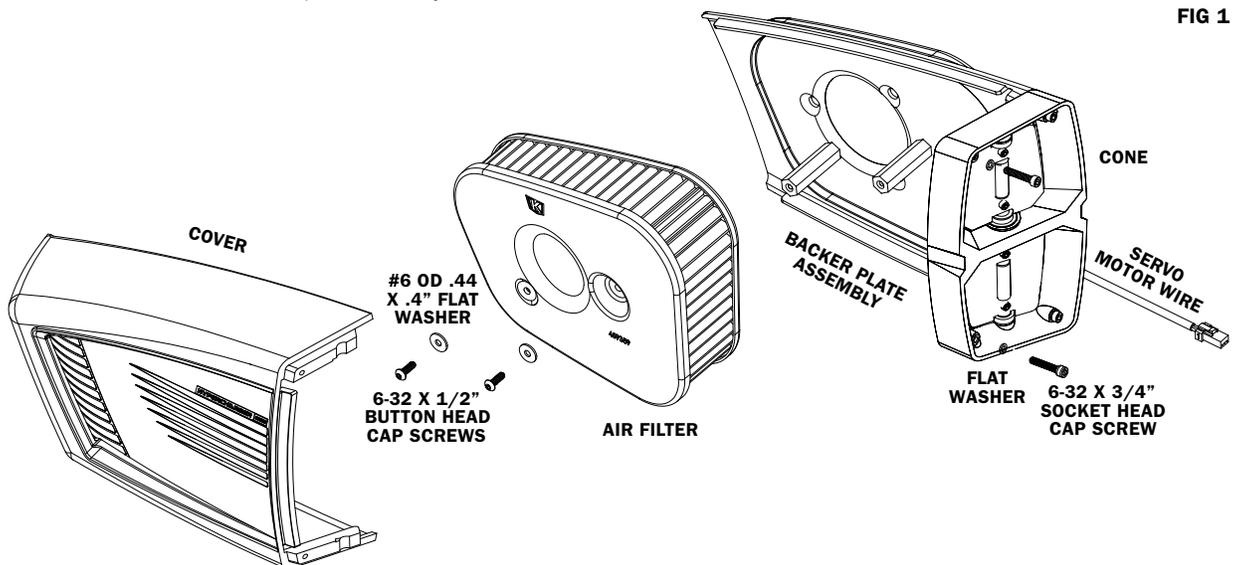

FIG 1
**STEP 16** Refer to FIG 1. Locate the provided Hypercharger ES Air Cleaner assembly. Dismantle the air cleaner assembly. Make note as to how it is assembled, it will help for reassembly.
- Remove two (2) outside edge screws from cone, and loosen the two (2) inside edge screws
- Remove two (2) screws and two (2) washers attaching the air filter